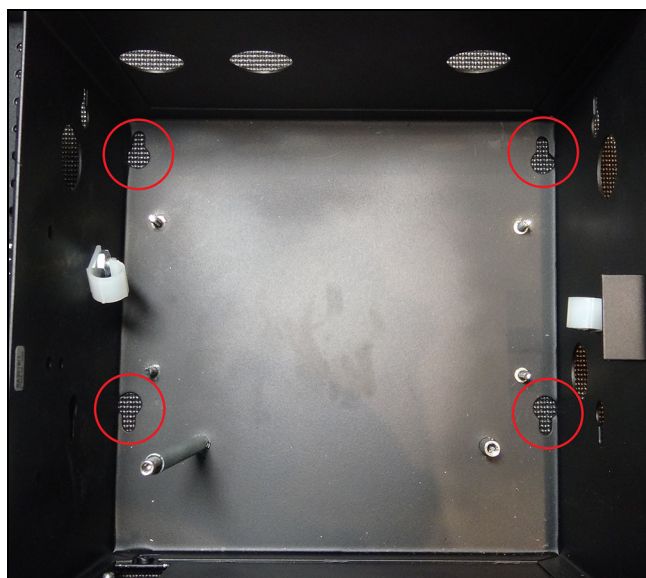

Figure 15 Rear mounting holes. Controller removed for illustrative purposes only.
- 2. Mount the box from the side or back using the installation keyholes on the control box and the installation screws provided. Use an extended #2 Phillips bit to aid in installation. When mounting on the back start with the bottom left screw first. Fasten all screws to securely mount the control box (4 screws for rear mount, 2 screws for side mount). See Figure 15.**